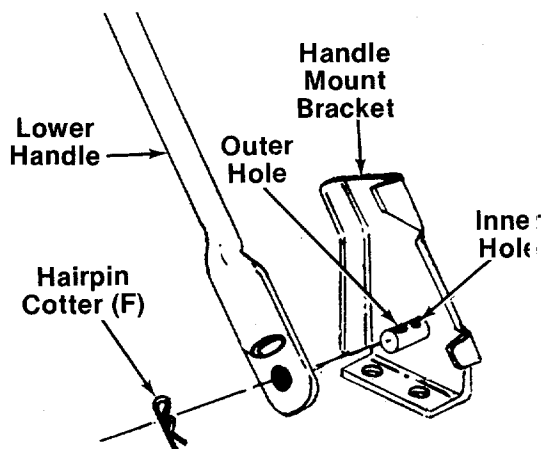

FIGURE 2.
- A (1) Rope Guide Bolt
- B (1) Curved Head Carriage Bolt
- C (2) Lock Washers 5/16" I.D.
- D (2) Hex Nuts 5/16-18 Thread
- E (2) Cable Ties
- F (2) Hairpin Cotter
- G (1) Plastic Plug
- H (1) Cable Bracket
3. Attach the lower handle by placing the bottom holes in the lower handle over the weld pins on the handle mount brackets. Make certain the instruction label on the lower handle can be read from the operating position. Secure with hairpin cotter (F) in inner holes on weld pins. See figure 2.